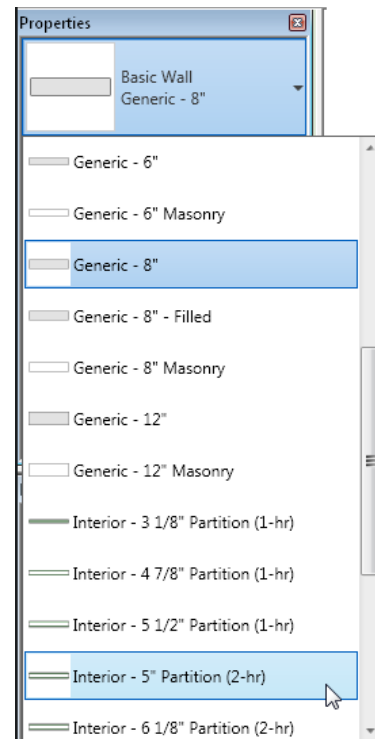

Figure 3-55 Selecting the **Basic Wall : Interior - 5" Partition (2-hr)** wall type
1. On invoking the **Wall: Architectural** tool, the wall instance parameters are displayed in the **Properties** palette. In this palette, select the required option from the **Type Selector** drop-down list, as shown in Figure 3-55.